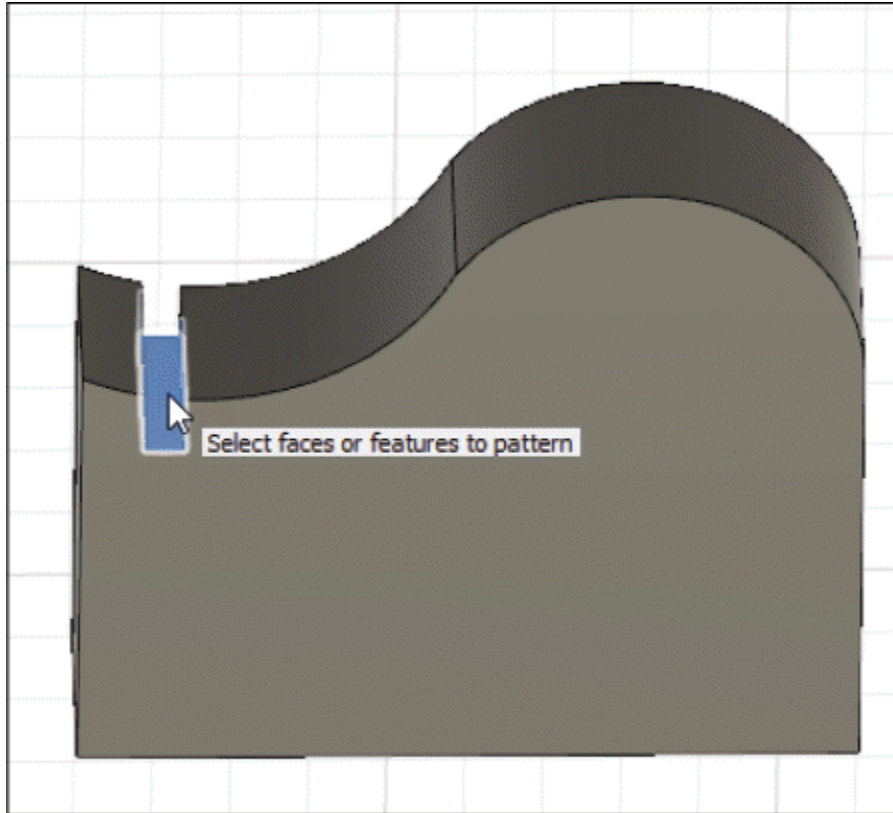

Figure-100. Selection of faces
- **Objects** selection is selected by default. Select the faces for creating the copies; refer to Figure-100.